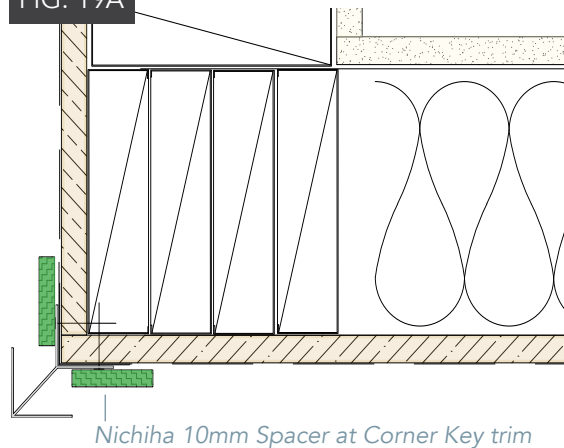

FIG. 19B
Set the short panel edge on the FA 710T Vertical (Panel) Starter Track with the cut edge on the left. The freshly cut and sealed edge should butt to the corner/starting point and will cover the 10mm Spacer. Secure the panel by adding the first Ultimate Clip on the right, factory edge at the Starter Track, no more than 1" (25mm) up. Use min. #8 washer, hex, or pan head wood screws to fully penetrate the wood sheathing, with 4 screws per clip (*Fig. 19B*).
Along the edge to be face fastened, apply low-adhesive tape to be removed later, after patching/touch-up. Pre-drill and face fasten the first edge with bugle head screws into framing every 12-16" (305-406mm) vertically. Keep screws a minimum 1" (25mm) from the panel edge (*Fig. 19B,C*).
On the right, factory panel edge, add three more Ultimate Clips evenly spaced along the full-height AWP 3030 panel. There must be four (4) clips per full-height panel edge with only 4-6" (102-152mm) of space between clips. Add four (4) fasteners per clip, evenly spaced (*Fig. 19B*) no more than 6" (152mm) apart vertically. The clips will be fastened only to the plywood/osb sheathing. Position the highest clip no more than 1" (25mm) down from the top edge. When panels are shortened to less than 3030mm, keep the same panel edge to clip ratios and spacings. Refer to *Cutting Ultimate Clips*.